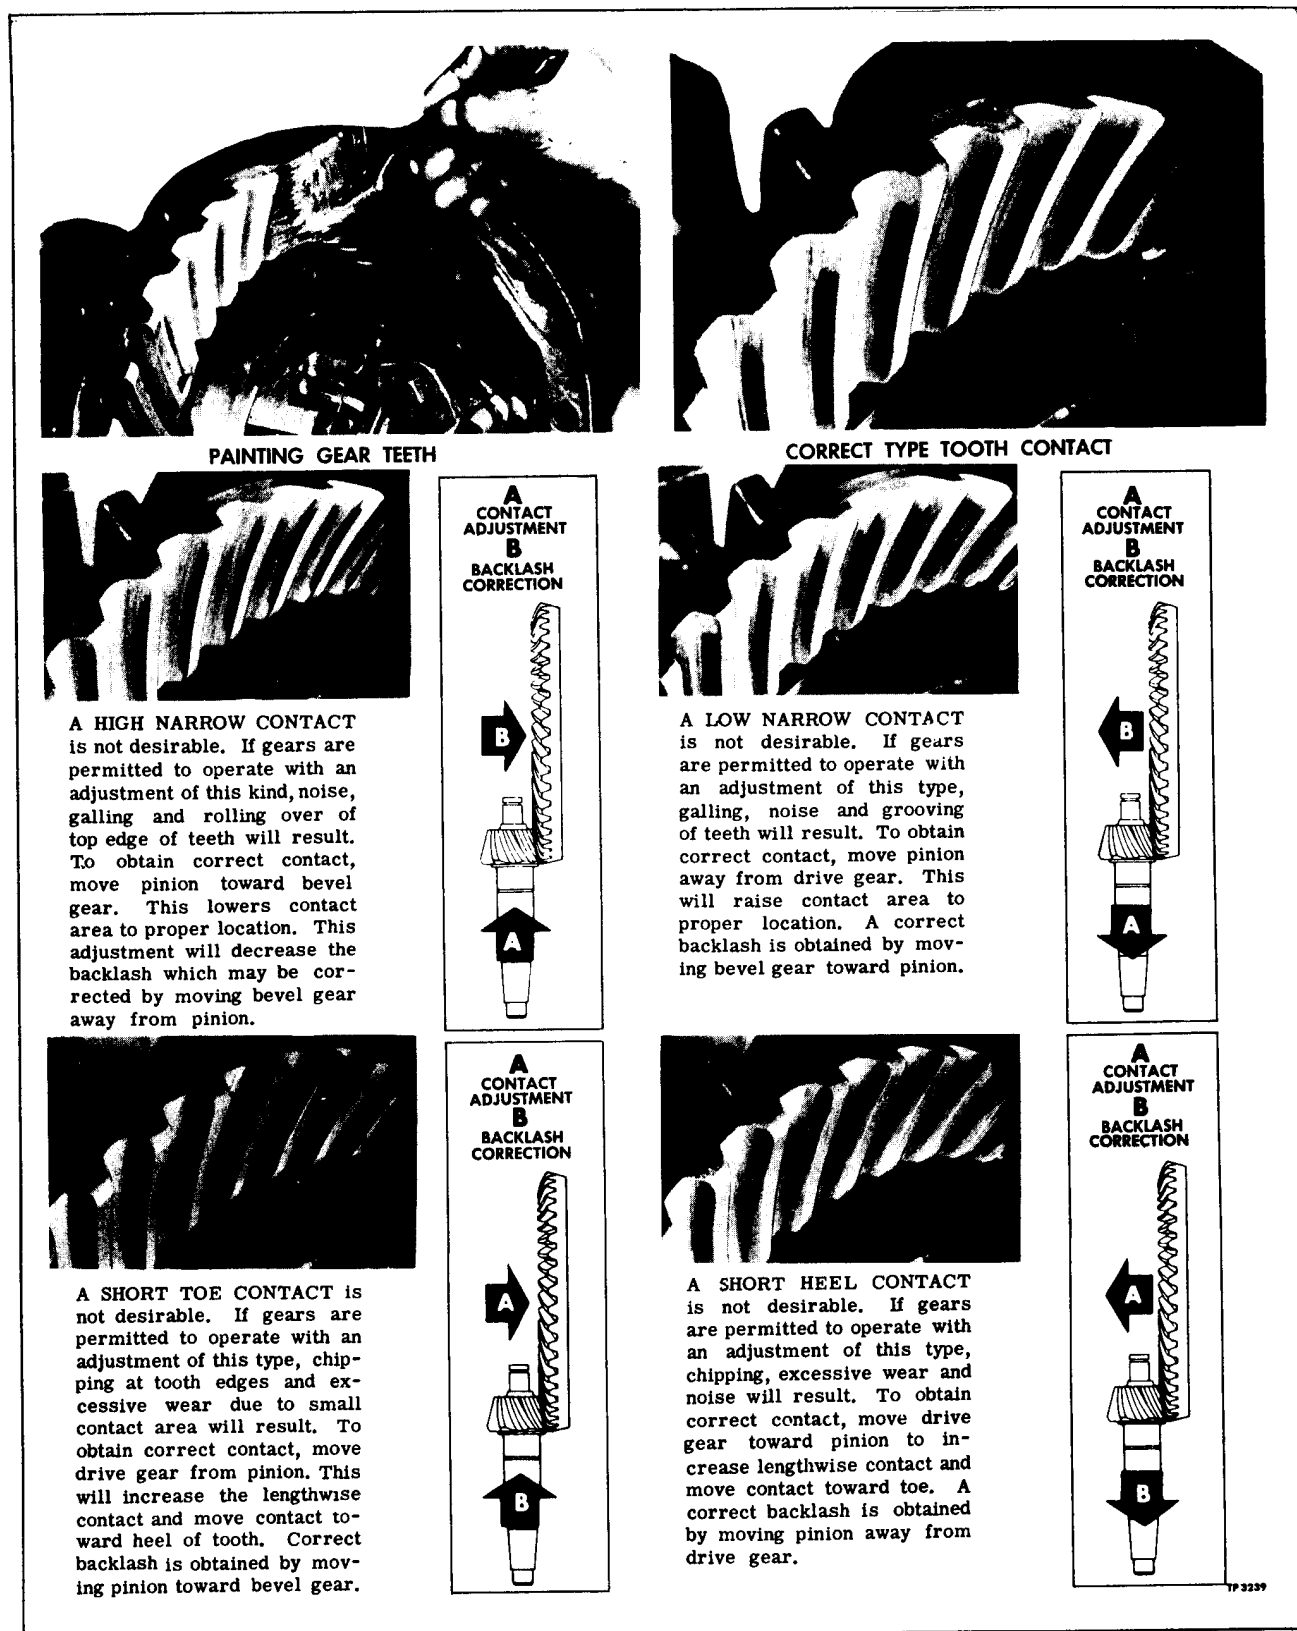

Figure 13—Tooth Contact Chart (Illustrations Are Typical)
1. Paint at least ten teeth of bevel gear with a mixture of red lead or prussian blue and engine oil. Rotate gears through a few revolutions in both directions by hand. Refer to gear tooth contact charts (fig. 13) for directions for making proper adjustments.
2. When satisfactory tooth contact and backlash has been obtained, install adjusting ring locks (6) and secure bolts (7) with lock wire.
Refer to next page for figure 13.